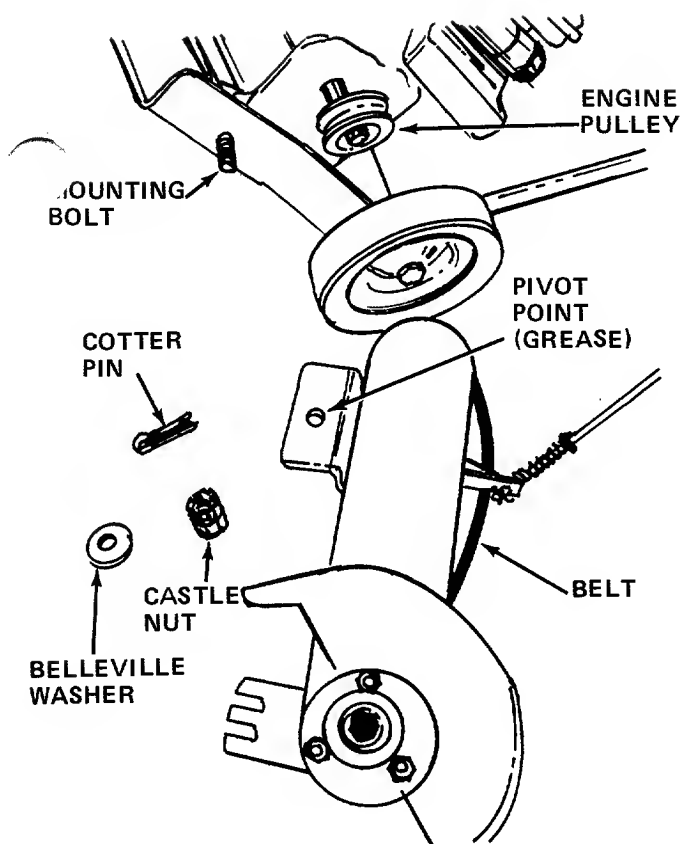

FIGURE 15
3. Lift off the hex castle nut, belleville washer and belt cover. See figure 15.
While the belt cover is removed, it is a good idea to apply a little grease to the pivot point on belt cover. See figure 15.
6. When tightening the castle nut, only tighten enough to line up hole in bolt for cotter pin. **DO NOT OVERTIGHTEN.** Belt cover must pivot freely. See figure 15.